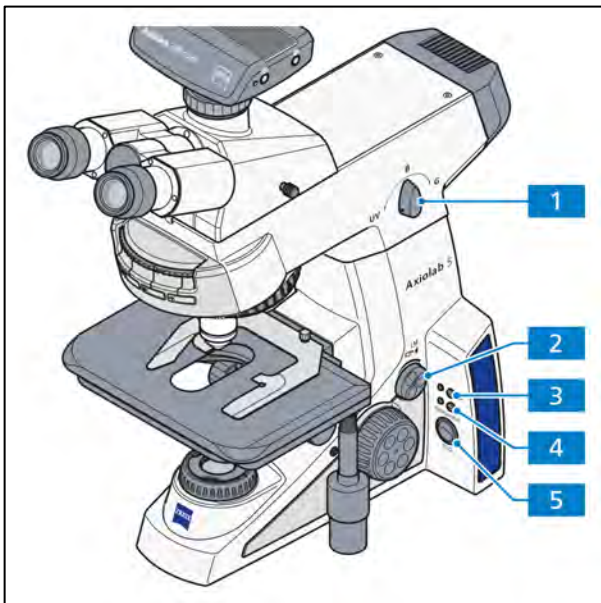

Fig. 3-33 Intensity/LM knob and illumination modes
- If available, select the transmitted or reflected light illuminator by pushing the **TL** (Fig. 3-33/4) or **RL** (Fig. 3-33/3) button.
- Adjust image brightness using the **Intensity/LM** knob (Fig. 3-33/2). To do this, take hold of the recessed grips of the knob with your fingertips and turn it to the desired position.
- Select **Permanent** or **ECO** mode (Fig. 3-33/5) for using the microscope illumination.
- Select the desired LED for fluorescence application using the LED selection knob (Fig. 3-33/1).